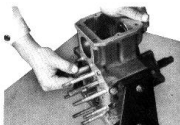

Fig. 9-10
14. Drive out of position the counter gear shaft by lightly tapping from the parking brake side (the end of the shaft not fitted with the stopper pin) and remove the shaft completely by turning it with hand as shown in the Fig. 9-10. When removing the shaft, use reasonable care to prevent damaging the "O" ring fitted to the end of the counter gear shaft.